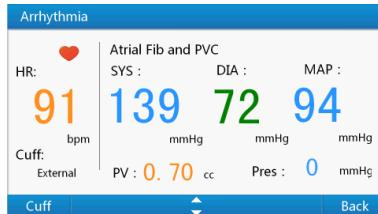

Figure 18 Arrhythmia BP simulation interface
1) Select "Arrhythmia" in "BP Simulation Menu" or use number key "6" to the arrhythmia BP simulation interface shown as Figure 18.